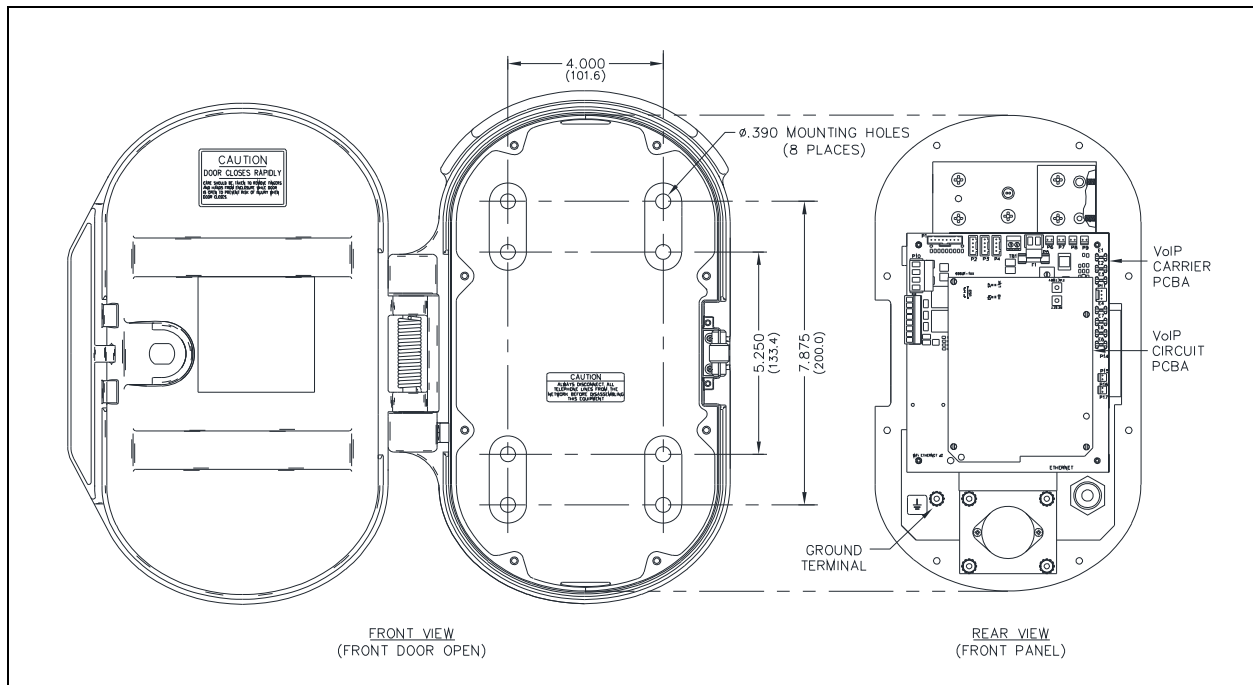

Figure 8. Model 226-710 Mounting Detail
3. Determine the hole pattern to be used for mounting (see Figure 8).